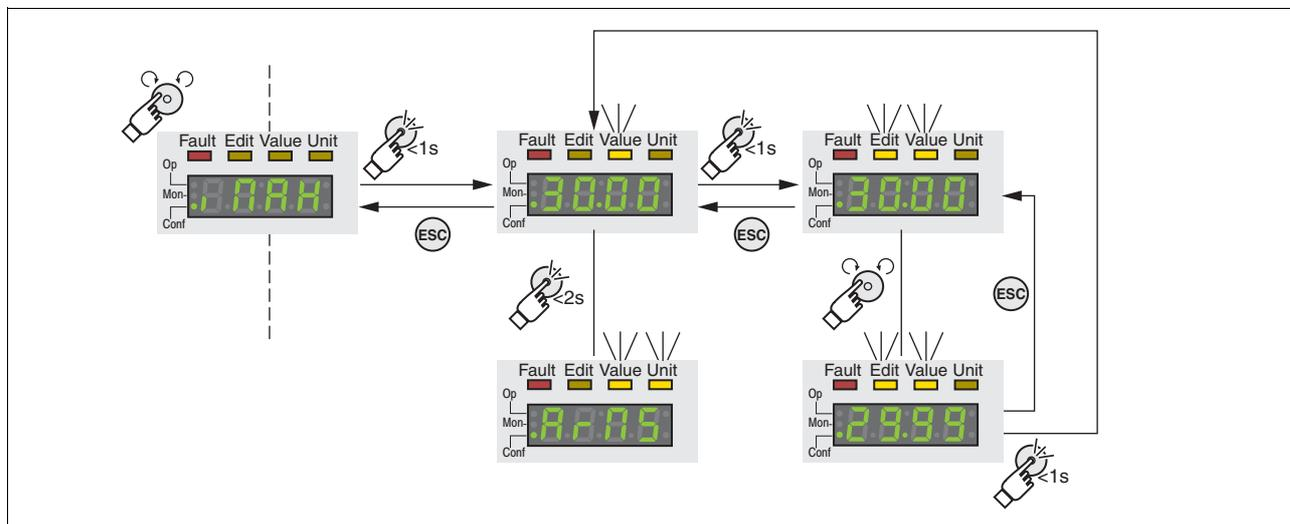

Figure 7.4 Integrated HMI, example of setting a parameter
- The parameter, *iPRH* (iMax) is shown on the 7-segment display, see Figure 7.4.